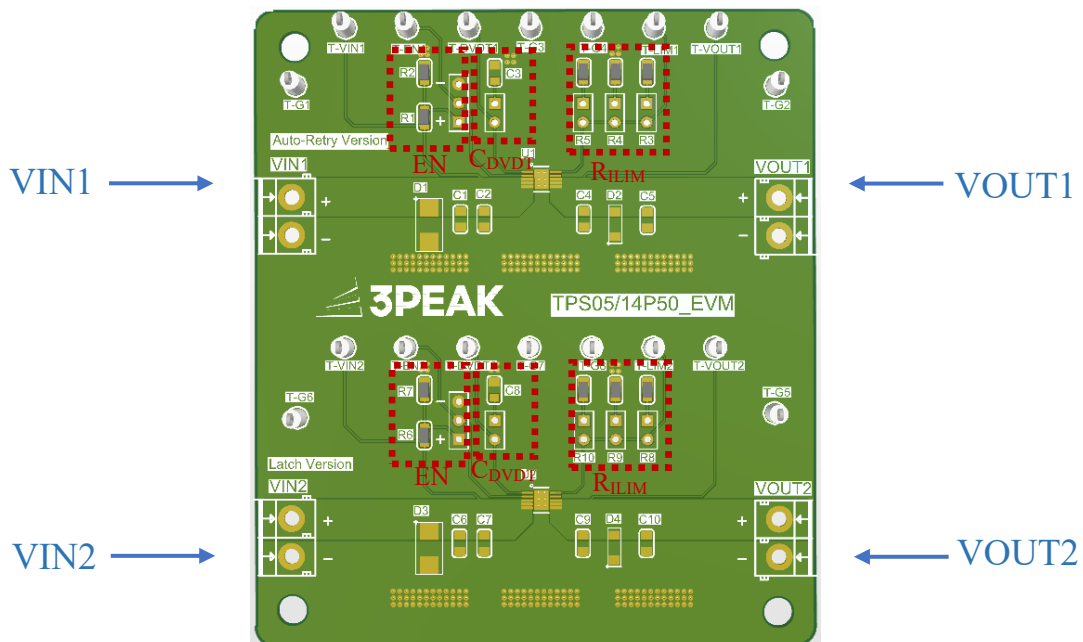

Fig. 3 EVM Test Setup
Referring to Table.3, the recommended connections to evaluate TPS14P50-EVM is shown in Fig.3.
- Set up the EVM as described in Fig.3.